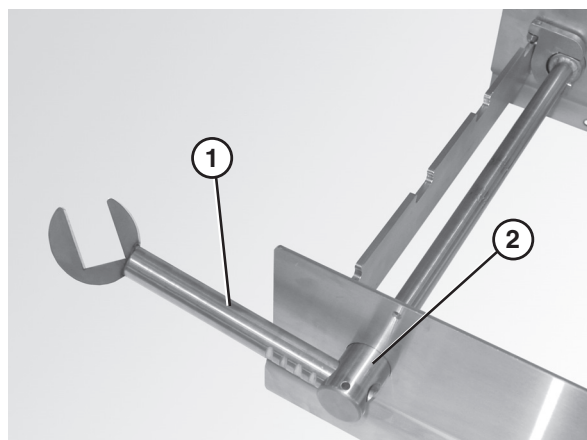

Figure 27
3. Attach the nose bar idler shaft hands (Figure 27, item 1) to the tip up shaft (Figure 27, item 2).